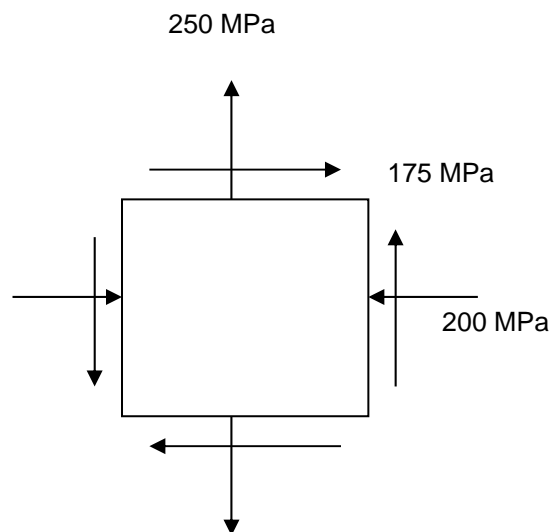

Figure Q5[a]
- Q5. [a] An element on the aluminum bracket is subjected to the state of stress that has the components as shown in Figure Q5[a]. By using the generalized stress-transformation equation, determine: